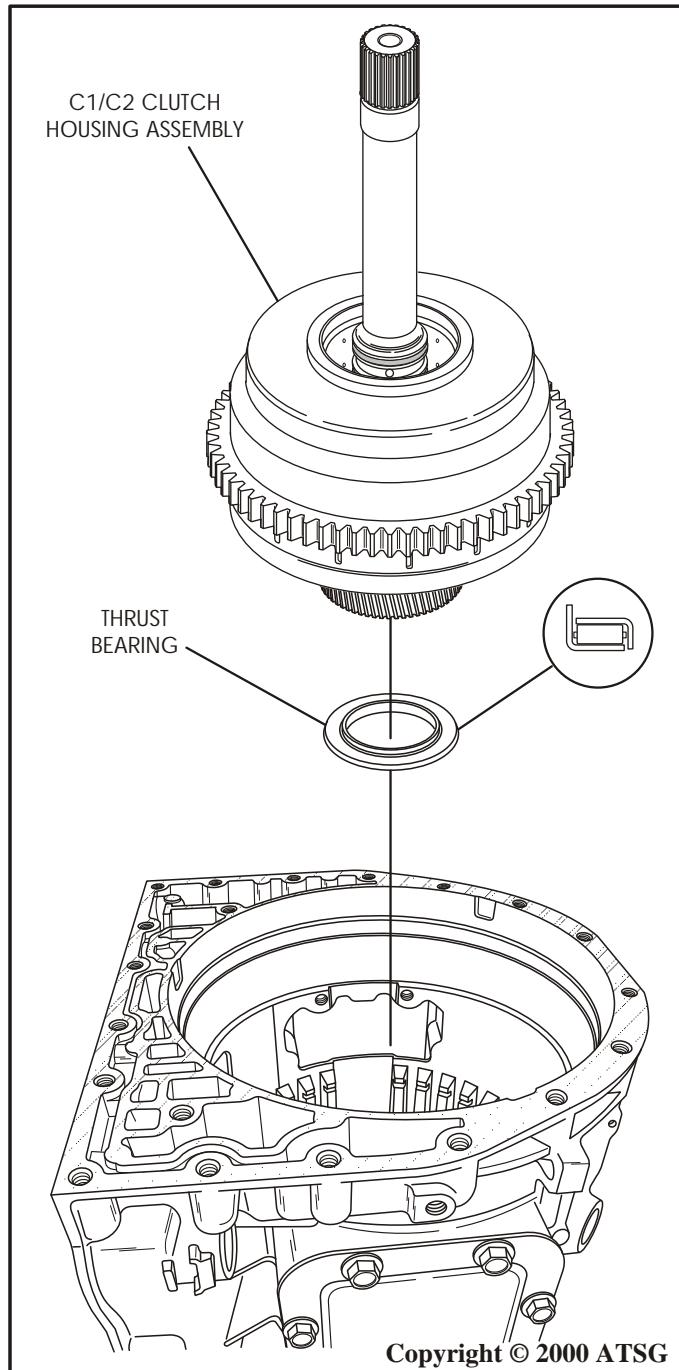

Figure 57
- Remove the C1/C2 clutch housing from the case by lifting straight up using the turbine, as shown in Figure 57.
Note: Remove the sun gear/planetary carrier thrust bearing if it is not stuck to sun gear as shown in Figure 57.